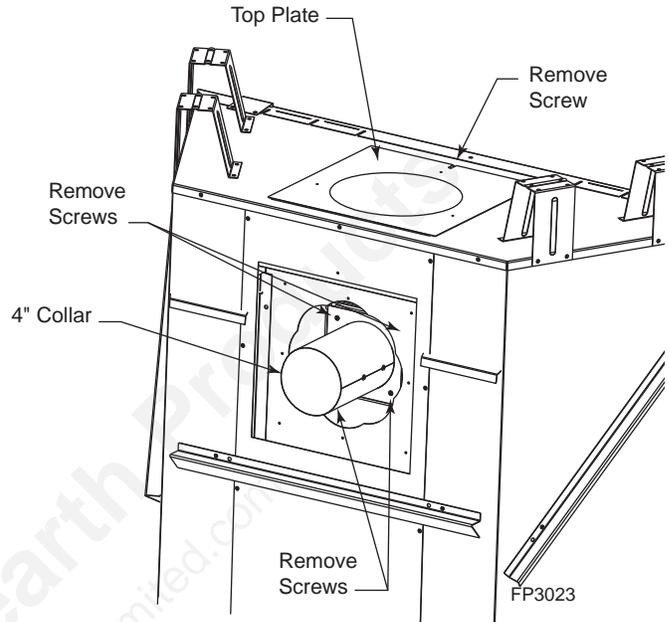

Figure 10 – Remove 4" Collar and Gasket and Top Plate
3. Remove the plate with the 4" collar and gasket by removing four (4) screws. Set aside. *Figure 10*
4. Remove the top plate located on top of the unit by removing one (1) screw. Set aside. *Figure 10*